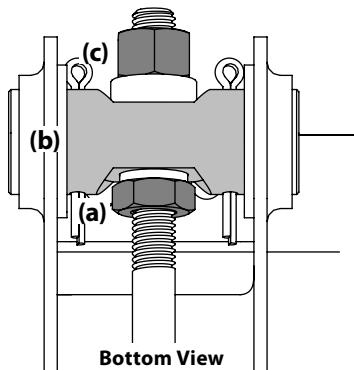

Figure 4-7
- Using a wrench, raise the front of deck by loosening the lock nuts (a) to the front of the pivot pin (b) and then tighten the jam nuts (c) on the back of the pivot pin to raise the front of the deck and secure in place. See Figure 4-7.
- Using a wrench, lower the front of deck by loosening the jam nuts (c) on the back of the pivot pin (b) and then tighten the lock nut (a) on the front of the pivot pin to lower the front of the deck and secure in place. See Figure 4-7.